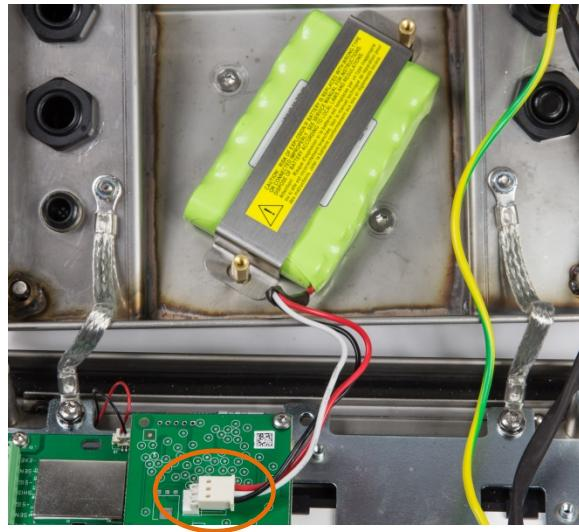

Figure 2-22: NiMH Battery Installed in the IND236
- Position the battery in the enclosure and secure it in place using the bracket provided and two hexagonal stand-offs, as shown in Figure 2-22.
- Attach the battery cable to the connector on the charging board, indicated in Figure 2-22.